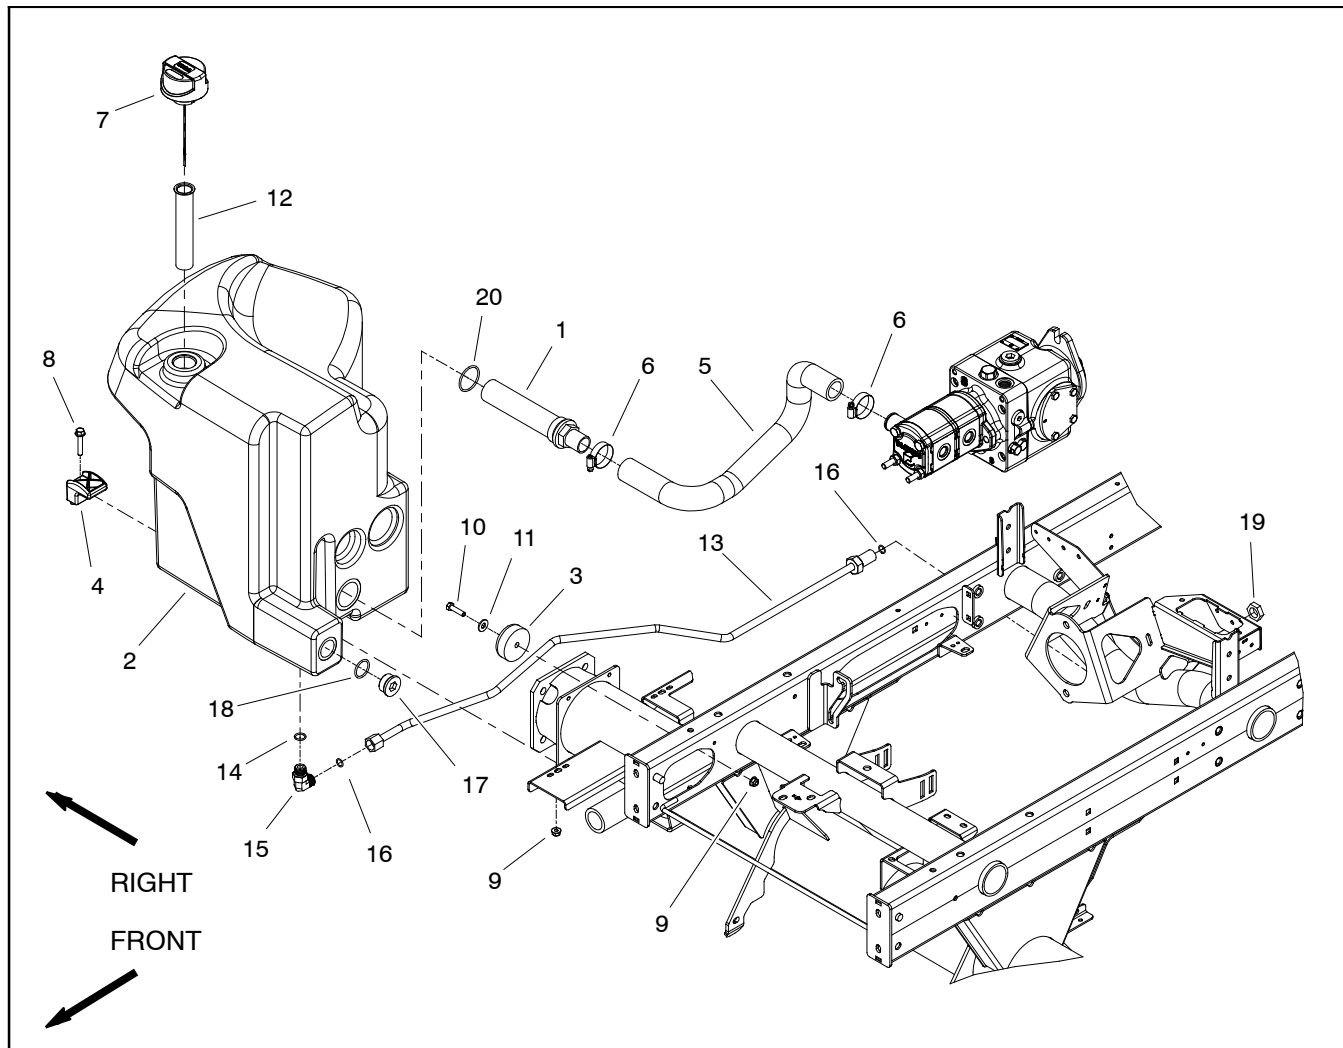

Figure 52
Removal (Fig. 52)
4. Remove hydraulic reservoir using Figure 52 as a guide.
5. Remove suction strainer (item 1) from reservoir. Discard O-ring.
6. If hydraulic fitting (item 15) is to be removed from reservoir, mark fitting orientation to allow correct assembly. Remove fitting from reservoir and discard O-ring.
Inspection (Fig. 52)
Installation (Fig. 52)